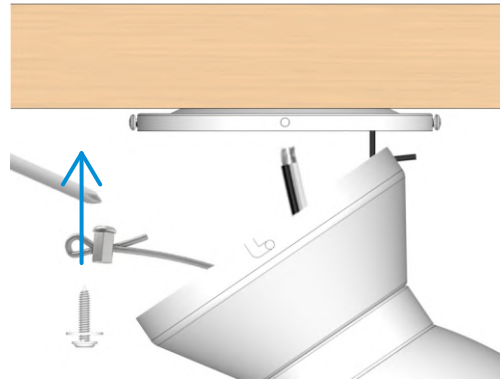

Fig. 4.3
**Option 2:** Refer to Fig. 4.3. Thread a screw, accompanied by a washer (both not included), through the center of the safety rope. Fasten the screw to the ceiling and then loosen the screw on the safety rope lock using a screwdriver. Pull the safety rope taut and then tighten the screw on the safety rope lock to securely anchor the safety rope to the fixed screw on the ceiling. Always double-check to ensure the safety rope is taut.